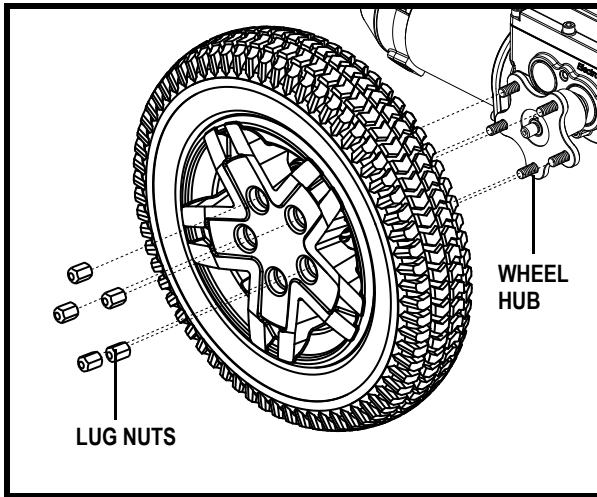

Figure 22. Q6 Edge HD Drive Wheel
4. Remove the (5) lug nuts from the wheel hub. See figure 22.